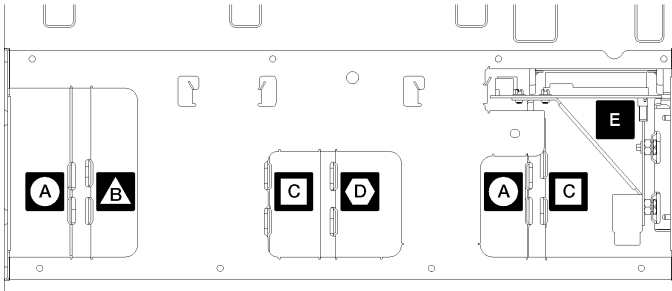

Figure 35. Midplane identification
- Step 6. Remove the midplanes from the server (depending on the configuration, you might need to remove up to 6 midplanes). You **must** remove midplanes A (if installed), B, C, and D. However, you do not need to remove the power midplane (midplane E). See Figure 35 “Midplane identification” on page 50 for the locations of all midplanes.